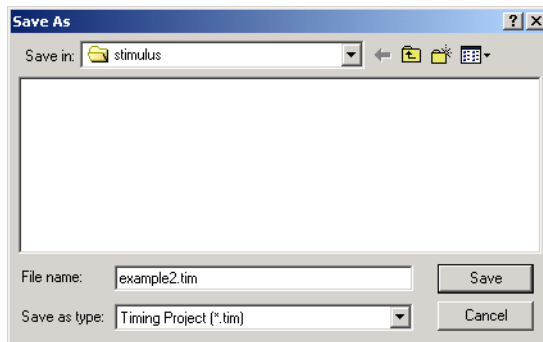

Figure 8-12. WaveFormer Lite Save As Dialog Box
- 1. After creating all the waveforms successfully, select *Save As* from the File menu to save the waveforms. The *Save As* dialog box is displayed, as shown in Figure 8-12.**